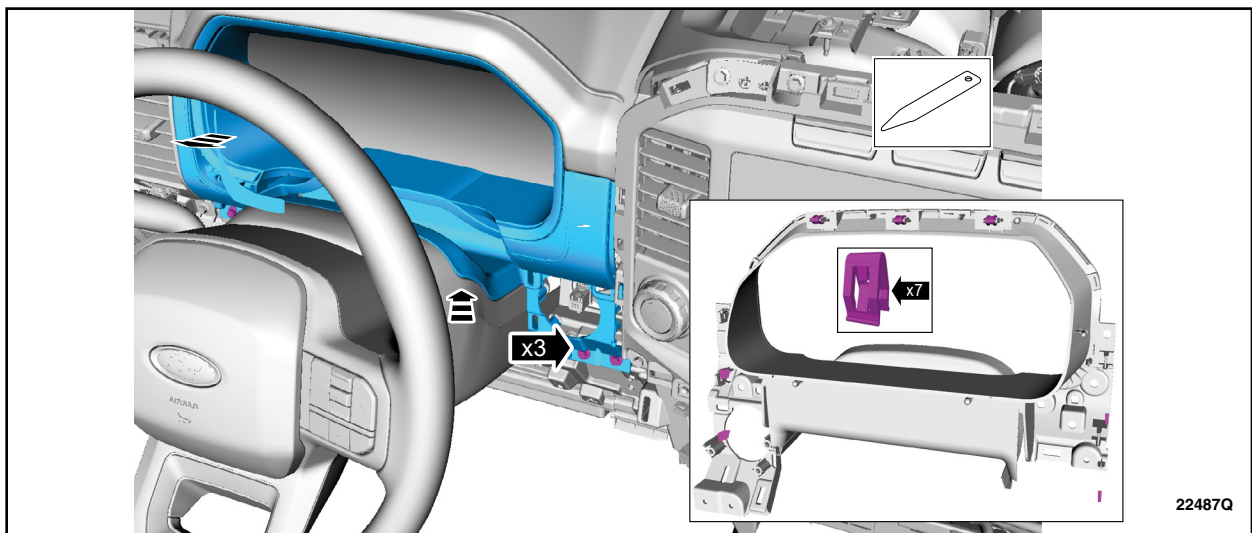

FIGURE 15
16. Remove the bolts, separate the gap hider from the upper steering column shroud, release the 7 clips and remove the IPC bezel. See Figure 15.